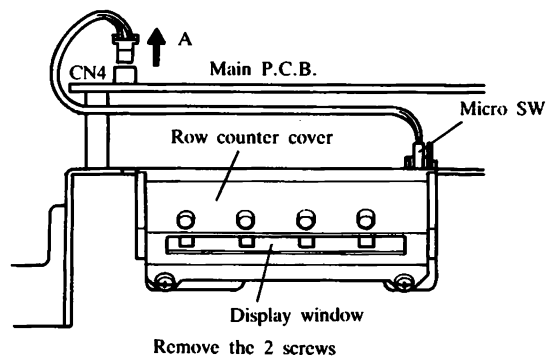

Fig. 23
- (1) Disconnect the Row counter connector CN4 from the Main P.C.B. (Refer to A in Fig. 23)